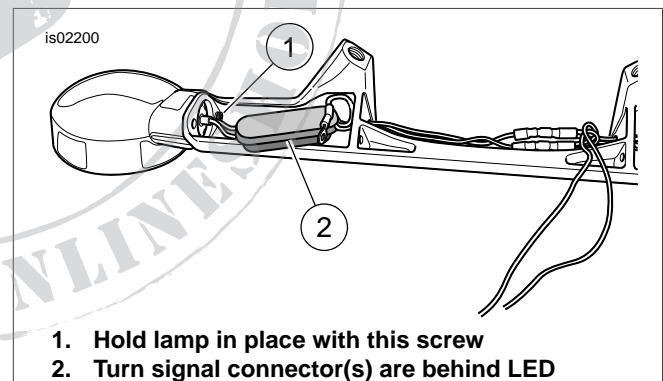

Figure 2. Assembling Directional Bar
5. See Figure 2. For each end of bar, place turn signal lamp in position with wires routed as shown. Move LED light out of the way and thread 5/32 inch Allen socket screw into lamp to hold lamp in place. Tighten screw.